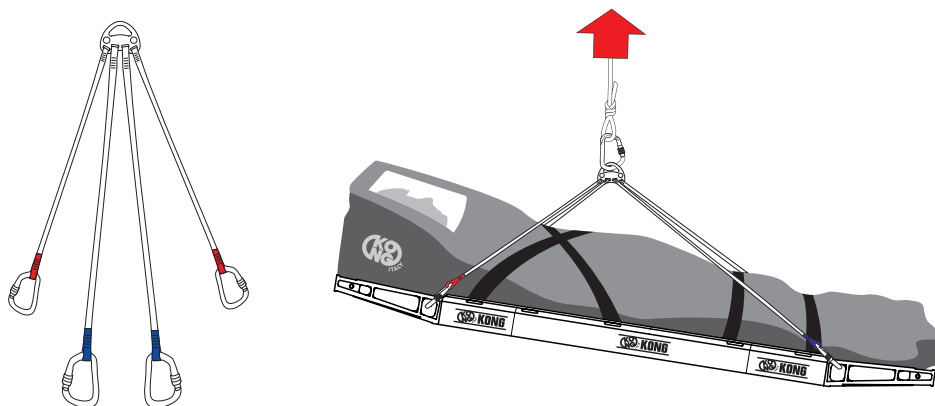

Fig. 2
- **Lifting and lowering with rescue devices (fig. 2 and 3)**